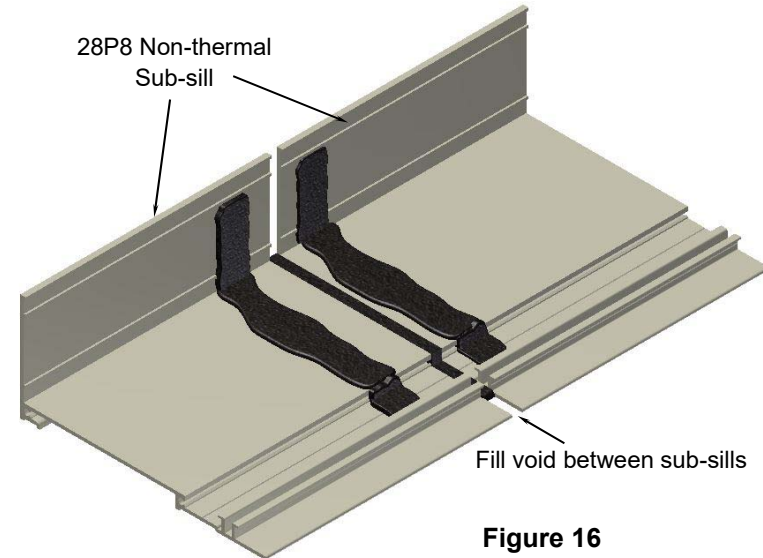

Figure 16
- Apply silicone type sealant to both ends and fill the void between them as shown in figure 16.